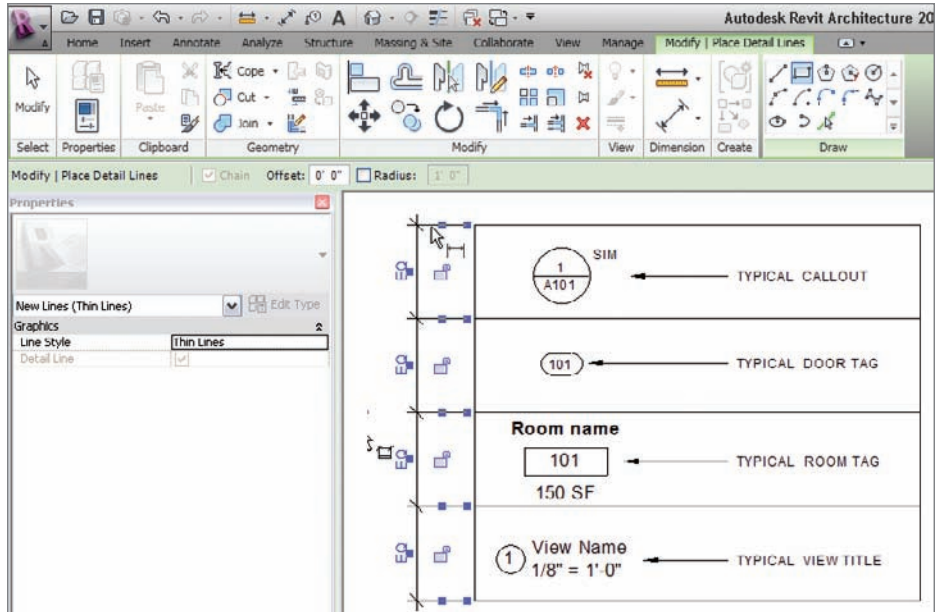

FIGURE 11.53 Draw the horizontal lines, then equally constrain them using the Dimension command.
9. Move the symbols and the text to the proper positions (see Figure 11.53).